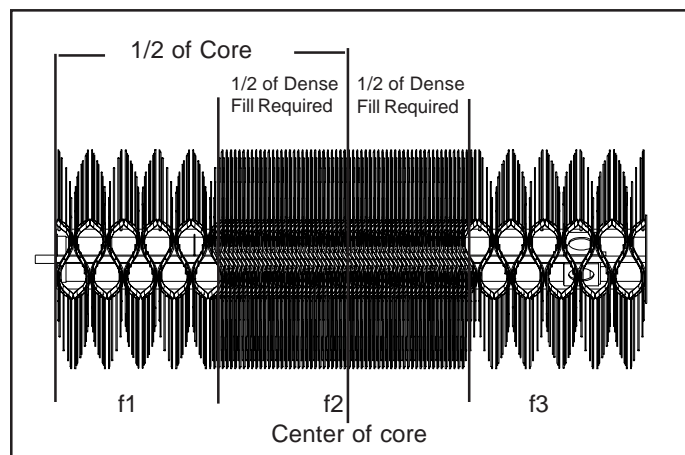

figure 3 (CP Special Only)
- f1. For CP Special, slide sections on as stated above up to a predetermined point which is 1/2 of the densely packed area below the center of the core. (figure 3)
- f2. For CP Special, slide the next section on with the drive pins in the same up or down angle as the previous section but continue positioning the drive pins on either side of the next sequential square stock. Continue assembly in this manner until the densely packed area is full. (figure 3)
- f3. For the CP Special revert back to the alternating up and down angle for the drive pins until the core is full. (figure 3)